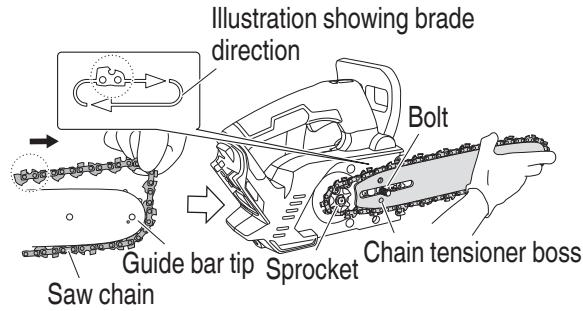
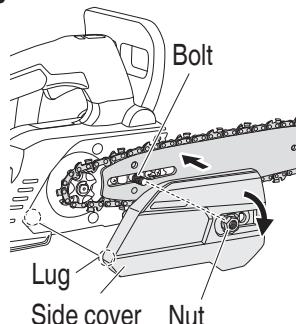

Fig. 13
Fig. 14
3. Engaging the new saw chain in the sprocket (Fig. 13)
① Attach the saw chain from the guide bar tip. Make sure the saw chain is oriented so that the blade faces in the direction shown in the illustration below the sprocket.
② Insert the bolt and chain tensioner boss into the hole in the guide bar while holding the chain and guide bar tip. Engage the end of the saw chain to the sprocket and mount the guide bar to the saw body.
4. Installing the side cover (Fig. 14)
① Attach the side cover by inserting the lug into the slot in the saw body. Make sure the saw chain does not come loose from the guide bar.
② Rotate the nut once to temporarily fix it. Remove any dirt around the side cover before reattaching.